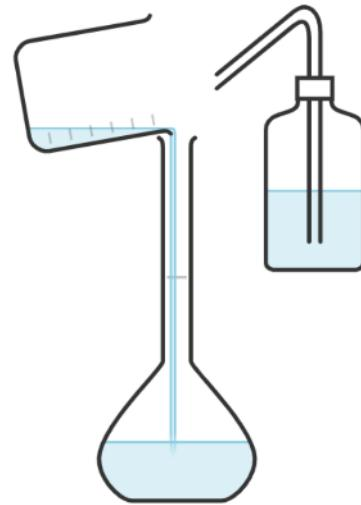

Figure 3:
- a. Hold the black bar (Figure 3) behind the buret, slightly below the meniscus. This will help highlight the bottom of the meniscus to make it easier to read.